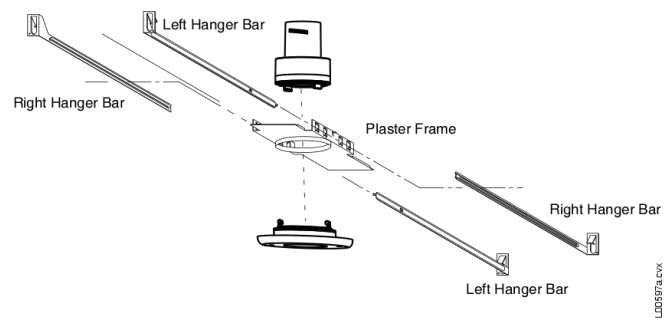

Figure 3. Twist-Fit System installation with Plaster Frame Kit
5. Pull the duct out and attach the outlet to the coupling by aligning the tabs with the adjacent slots on the mating part (Figure 3). Twist the outlet until a click is heard.